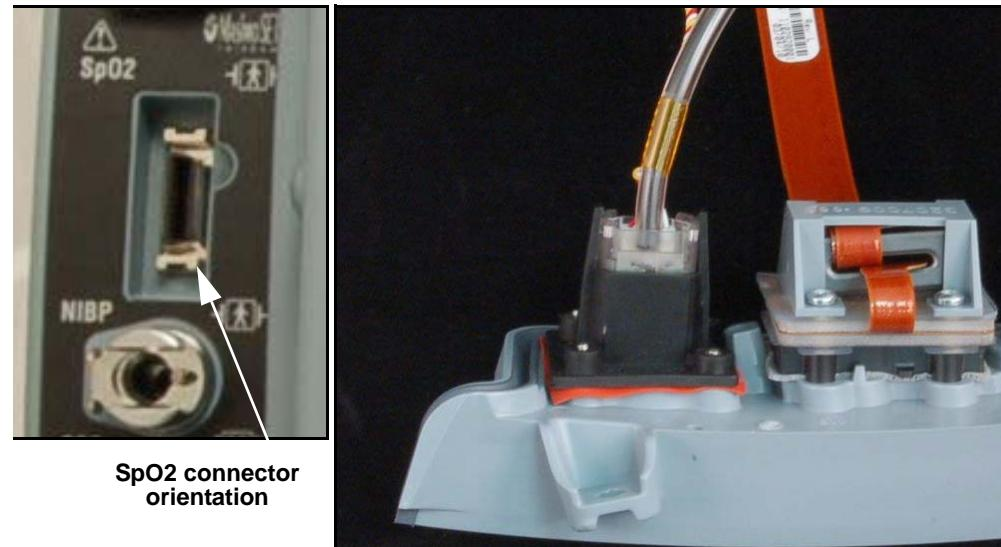

Figure 8.102—SpO₂ connector cable
3. Insert the SpO₂ connector cable into the parameter bezel and secure with the four new screws (REF 21300-007557); torque to 2 in-lb using a Torx T-10 bit (see Figure 8.102 on p. 329 for connector orientation).